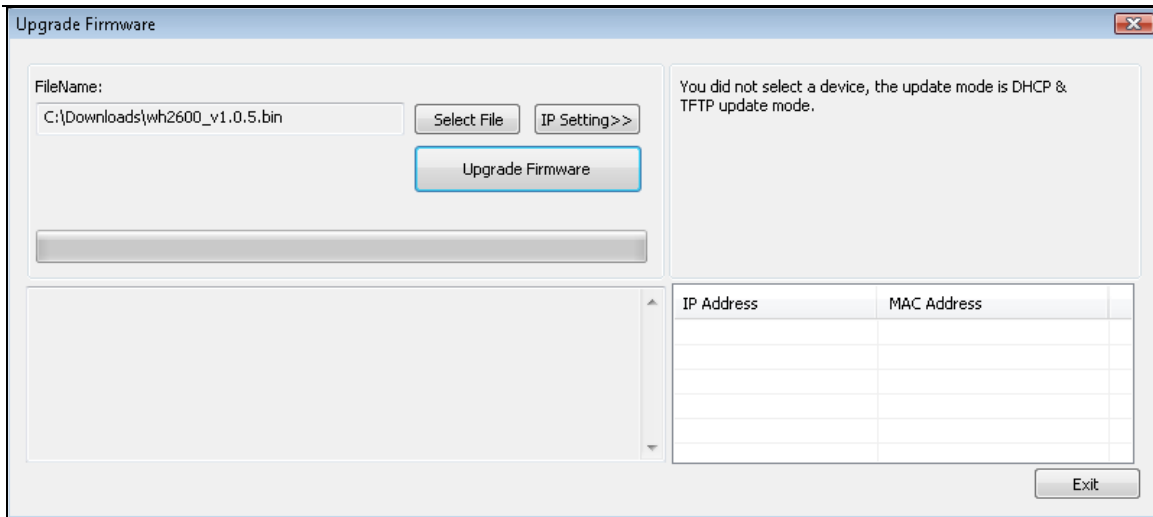
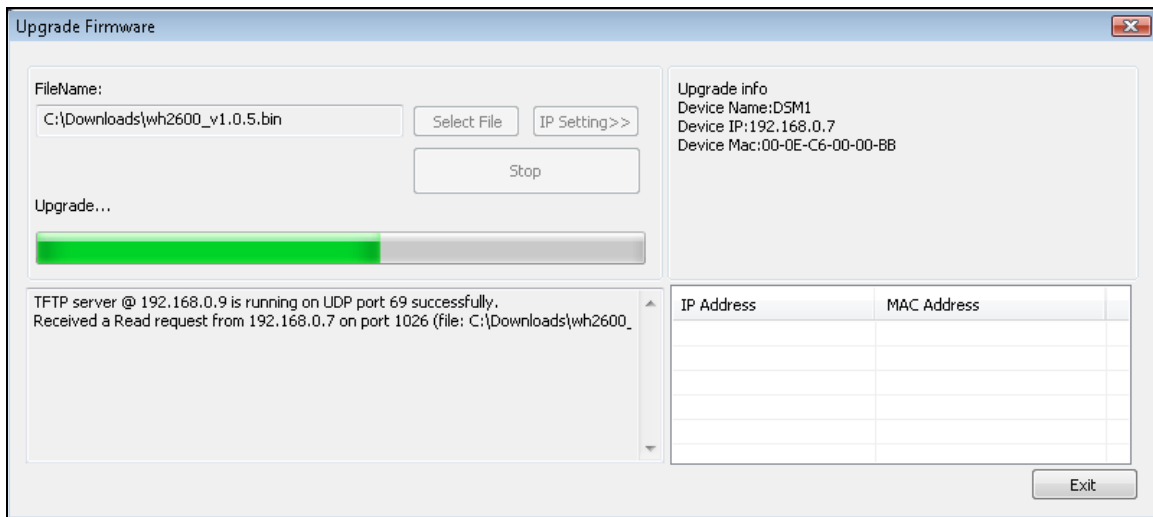

Figure 27
Figure 28
4. Reference Figure 27. Select the **Select File** button, and browse to the location of the file you downloaded in Step 1.
5. Select the **Upgrade Firmware** button. Reference Figure 28. The dialog box will display **Received a Read Request** from the ObserverIP module. A green progress bar will provide you with the upgrade status.
<p>module does not communicate to the server.</p>	<p>http://www.AmbientWeather.com/observerip.html</p> <ol style="list-style-type: none">2. Power down the ObserverIP module but leave connected to your router.3. Launch the IP Tools application as referenced in Section 3.7. Since the module is powered down, you will not be able to locate it on your network, but proceed anyway.4. Select the Upgrade button.5. Reference Figure 27. Select the Select File button, and browse to the location of the file you downloaded in Step 1.6. Select the Upgrade Firmware button.7. Plug in the ObserverIP module. The software will locate the device on your network and begin the update. <p>Reference Figure 28. The dialog box will display Received a Read Request from the ObserverIP module. A green progress bar will provide you with the upgrade status.</p> <p>DO NOT OPERATE THE MOUSE OR KEYBOARD WHEN UPGRADING to prevent interruption of the upgrade.</p> <ol style="list-style-type: none">8. Once the firmware upgrade is complete, the dialog box will display Read session is completed successfully, as shown in Figure 29.9. Wait about one minute for the ObserverIP module to reboot. You can now Exit the upgrade window, and access the module again, as referenced in Section 3.7. <p>All of the lights should be on except the Server light (you will need to reprogram the Wunderground.com settings).</p>